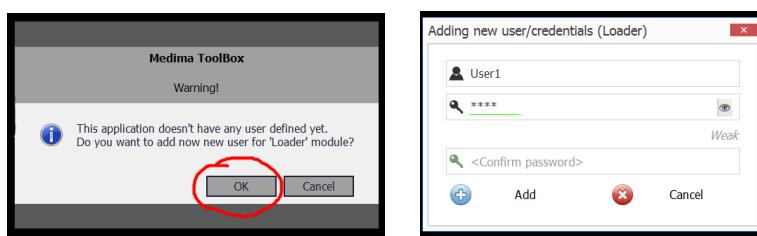

Fig. 9 Adding new user/credentials windows during Loader launching
4. Define a new user for the Loader module using credentials defined during the installation process (see Fig. 9).